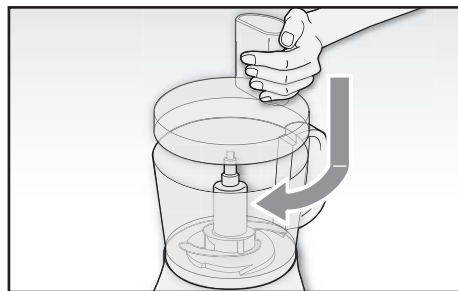
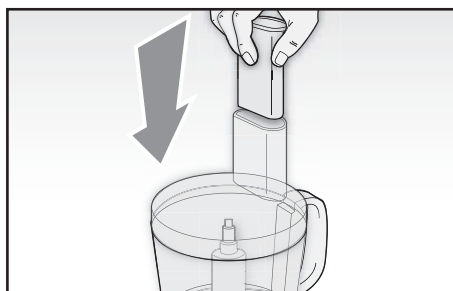

Fig. 9
Fig. 10
- 1 Put the ingredients in the bowl (P). If possible, cut solid foods into small pieces (1.5 x 1.5 cm). Do not put food over the maximum level indicated on the bowl.
- 2 Insert the lid (O) over the bowl (P) aligning the notch inside the bowl with the symbol () . Lock the cover (O) turning it clockwise until it snaps () (Fig 9).
- 4 Turn the speed control knob (A) to put the appliance into operation. It is possible to select three operation modes: minimum speed ("1"), maximum speed ("2") and pulsed ("P"). For the best operation of the pulse mode, keep the knob turned for maximum 2/3 second each time.
- 5 To add ingredients during operation, use the hole on the lid (O). Push foods inserted with the aid of the pusher (G) (Fig 10).
- 6 To stop the appliance operation use the knob (A) and position it to "0".